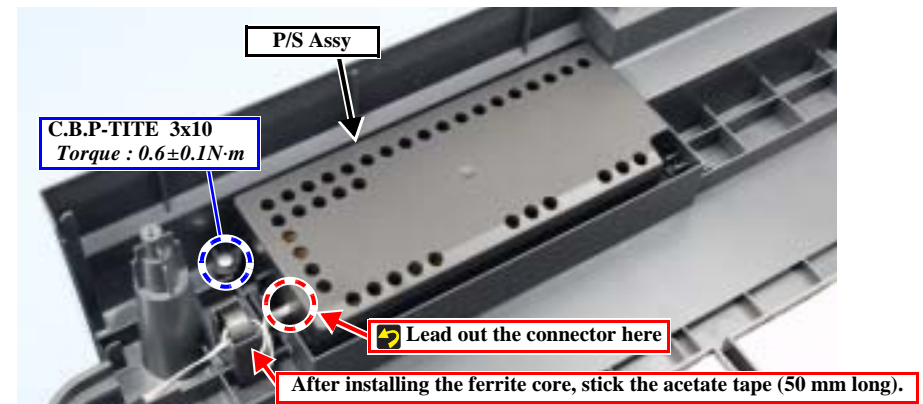

Figure 4-38. Removing the P/S Assy
1. Remove the screw securing the P/S Assy, and remove it from the Housing Lower. (Fig. 4-38)